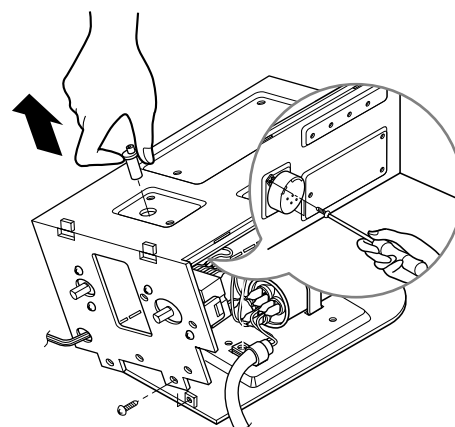

Figure 16
5. Remove the 2 screws which fasten the synchronous motor. (See Fig. 16)